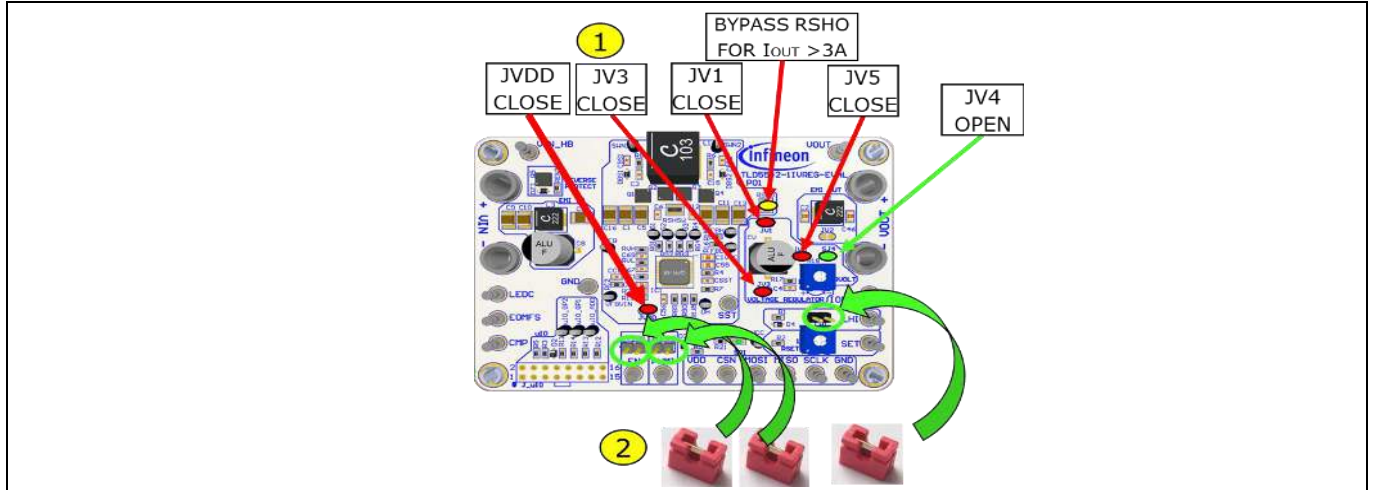

Figure 6 Voltage regulator , set LHI and EN jumpers, populate solder jumps
1. Configure solder jumper for VREG (Figure 6), if $I_{OUT} > 3$ A bypass RSHO with a solder joint on the resistor top